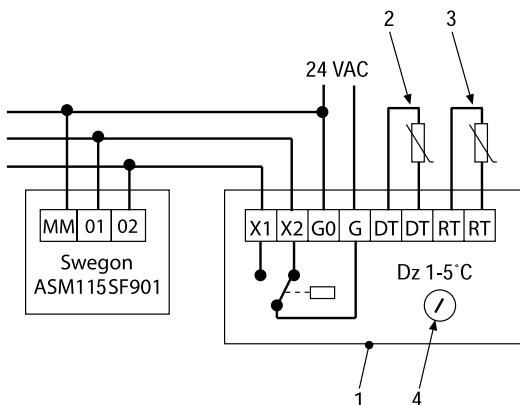

Figure 5. The wiring diagram shows the connections with the Sauter damper motor against the supply air diffuser.
- Key to Figure 5.
- 2 = Duct temperature sensor (DT)
- 3 = Room temperature sensor (RT)